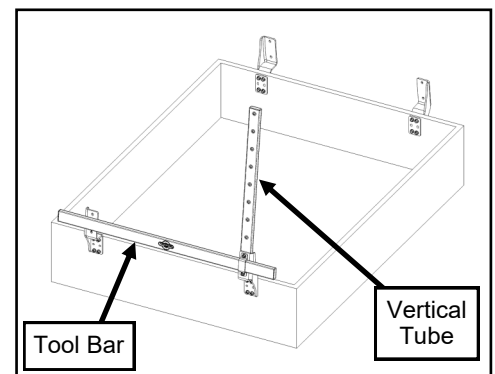

Fig. 2
- See fig. 2. With an assistant, install a UTV Tool Rack Vertical Tube (ref.: 32" long tube) onto the inboard side of the mounting bracket, as shown. Ensure that the two threaded inserts on the opposite side of the tube are at the top.